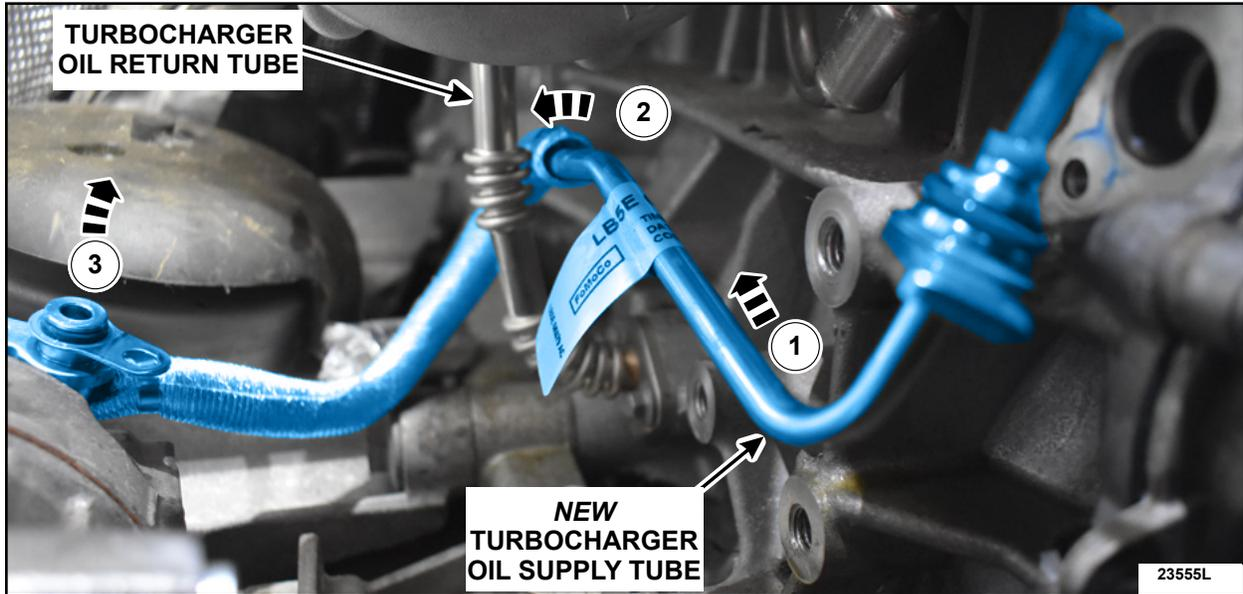

FIGURE 11
13. Lubricate the O-ring seals with clean engine oil, then install and fully seat the *new* turbocharger oil supply tube. See Figures 11 and 12.